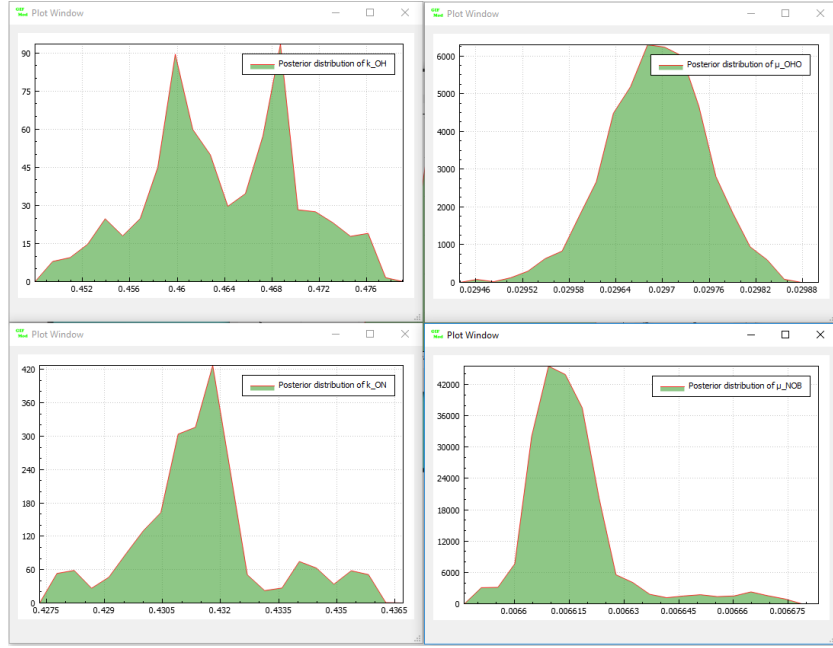
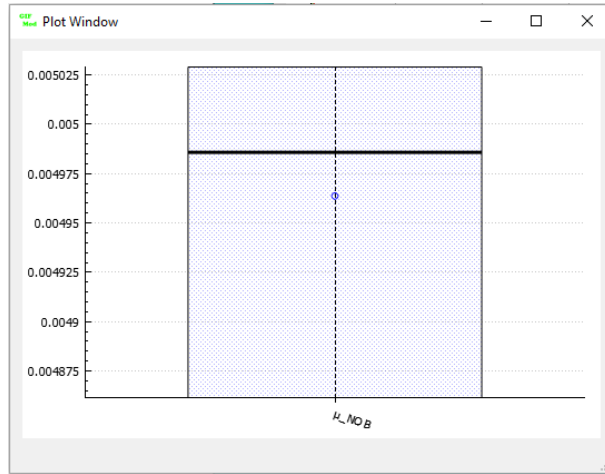

Figure 5.8: Posterior distribution of  $k_{OH}$ ,  $\mu_{OHO}$ ,  $k_{ON}$ ,  $\mu_{NOB}$
Figure 5.9: Posterior credible interval for
- From **Project Explorer**→**Inverse Modeling**→**Parameters** right-click on  $\mu_{NOB}$  and select **Plot posterior distribution histogram**. A graph will appear that shows the posterior distribution of parameter  $\mu_{NOB}$  (Figure 5.8). Similarly inspect the posterior distribution for other parameters. (Figure 5.9). In this figure the box plot shows the